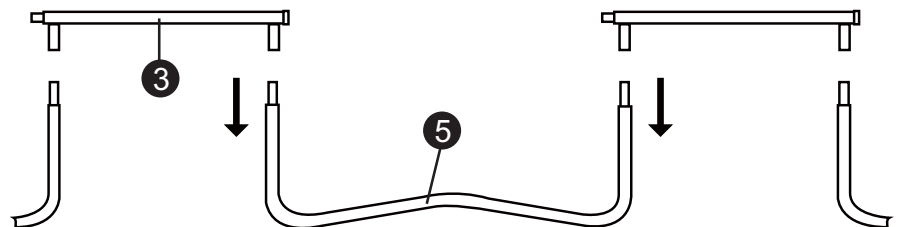

FIGURE 2
**A.** Two people will be necessary at this point to assemble the trampoline. Lift the support assembly from Step 1 to a standing (vertical) position as shown in FIGURE 2. Insert the Top Rail with Leg Socket into the one end of the support assembly. Insert opposite end of the Top Rail with Leg Socket into a second support assembly. Make sure holes on metal pieces are facing the outside of the trampoline, this is important for installing the enclosure.